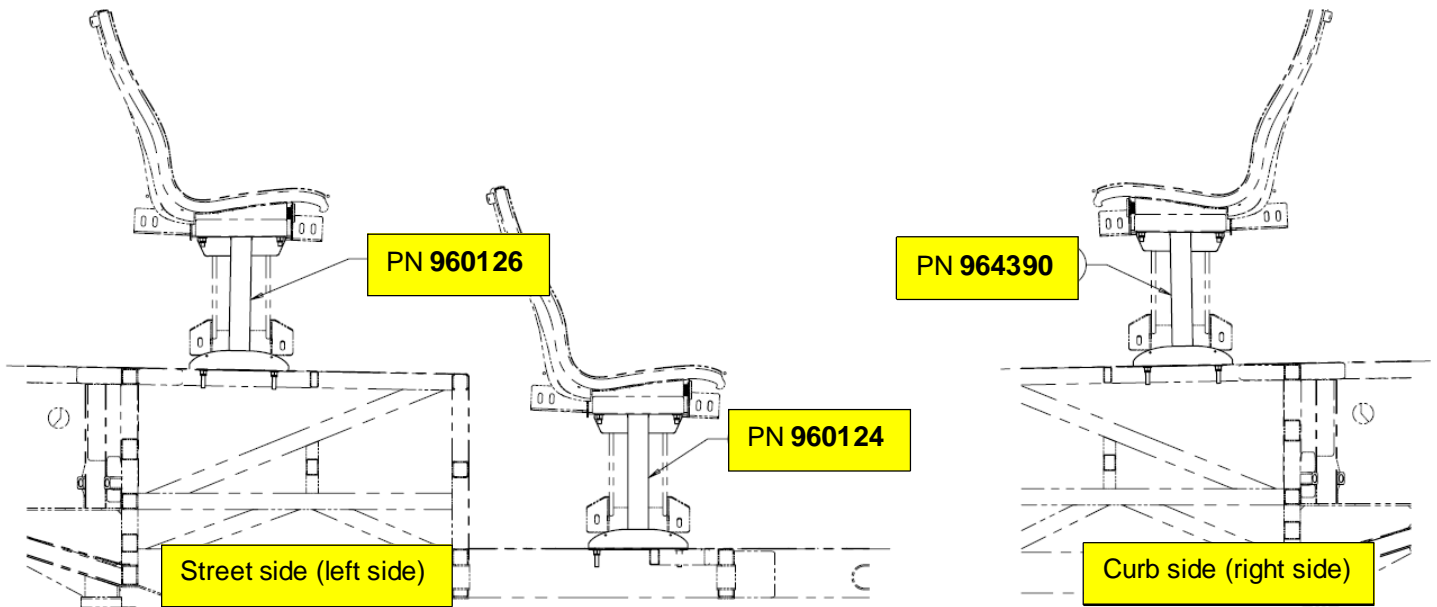

Figure 5: Pedestals for the 3 seats of rear coach
7. Place the matching pedestal underneath the seat and secure it to the bottom of the seat frame with 4 ea. 3/8-1.25 L bolts (PN **20B06020**), 8 ea. flat washers (PN **50W06000**) and 4 ea. nuts (PN **42N06000**). Leave bolts loose so the pedestal can be adjusted if required. Refer to Figures 5,6 and 7.